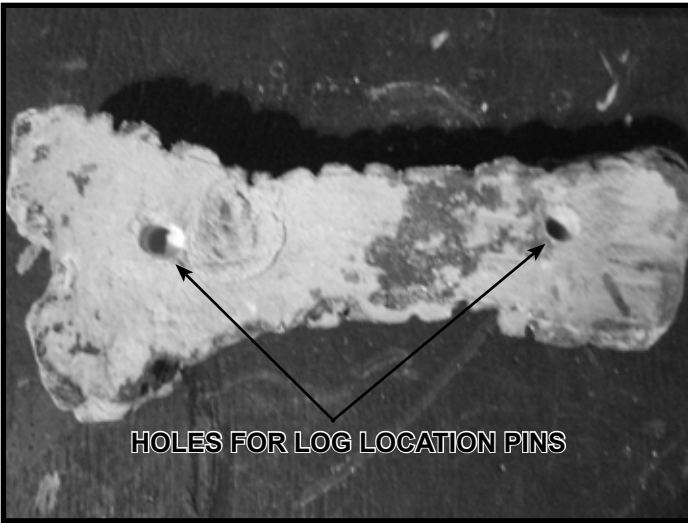
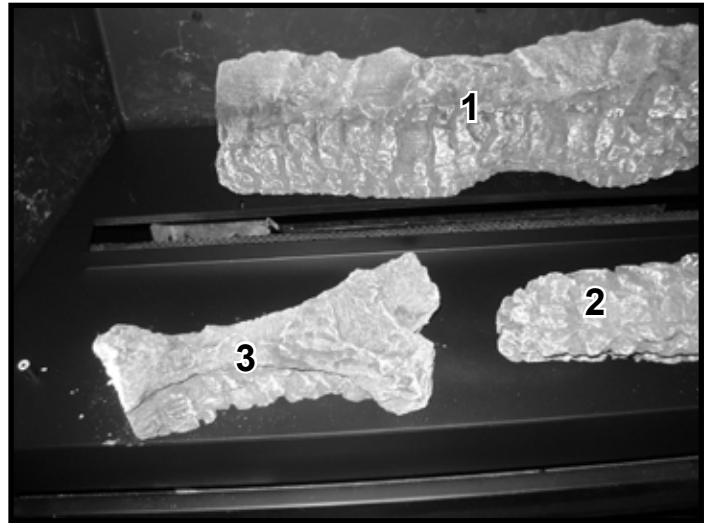

Figure 7. Log #3 Bottom View
Figure 8. Log #3 in Position
**Log #3 (SRV2033-708):** Log #3 also has holes on the bottom side that will be used for positioning it in the firebox. See Figure 7. Place the two holes on the bottom of Log #3 onto the pins on the left side of the basepan as shown in Figure 8.